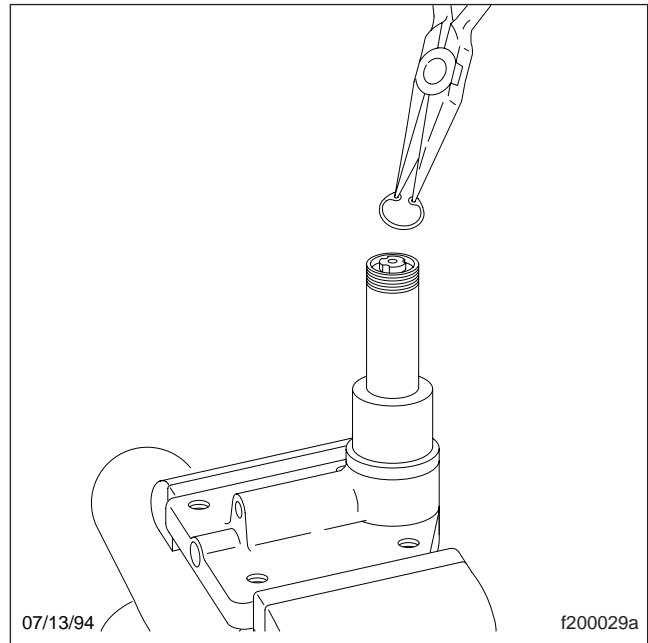

Fig. 9, Retaining Ring Removal and Installation
- 24.1 Remove the retaining ring. See Fig. 9 .